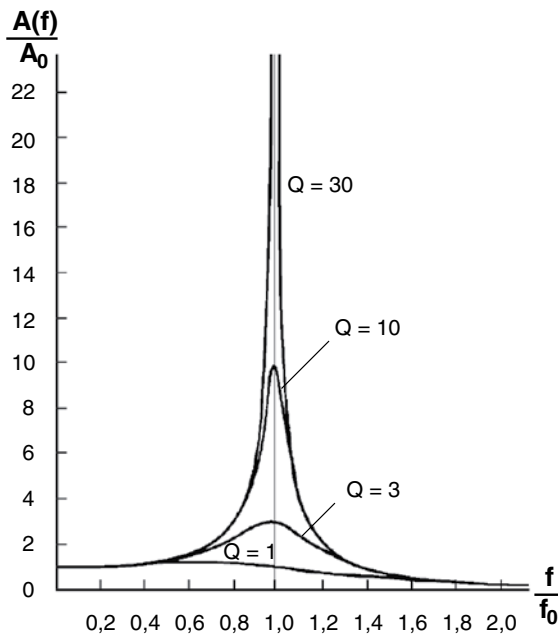

Figure 4-2 Drive Train Transfer Curve
The natural torsional frequency (f_0) determines the response of the torque measuring system and helps to determine whether rapid variations may influence the measuring system or whether the torque is amplified or damped by the drive train dynamics. The transfer curve is shown in *Figure 4-2* for various quality factor values (Q), depending on the torsional system damping factor. The graph charts the factor by which the torque will be amplified, depending on the frequency of the torsional oscillations.